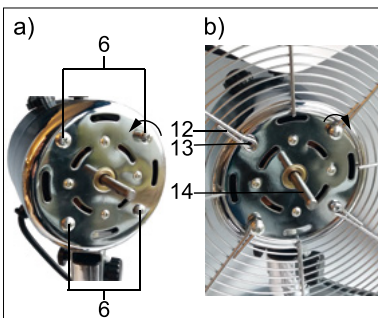

Fig. 12: Mounting rear part protective grills
11. Unscrew the 4 Phillips screws (6) from the engine block by turning them counterclockwise. Fig. 12 a)
12. Push the rear protective grille (7) with the handle upwards onto the motor axis (14).
*The eyelets in the protective grille (12) must be flush with the holes (13) in the engine block. Fig. 12 a).*
13. Insert the 4 Phillips screws through the eyelets in the protective grille and into the holes of the engine block (13).